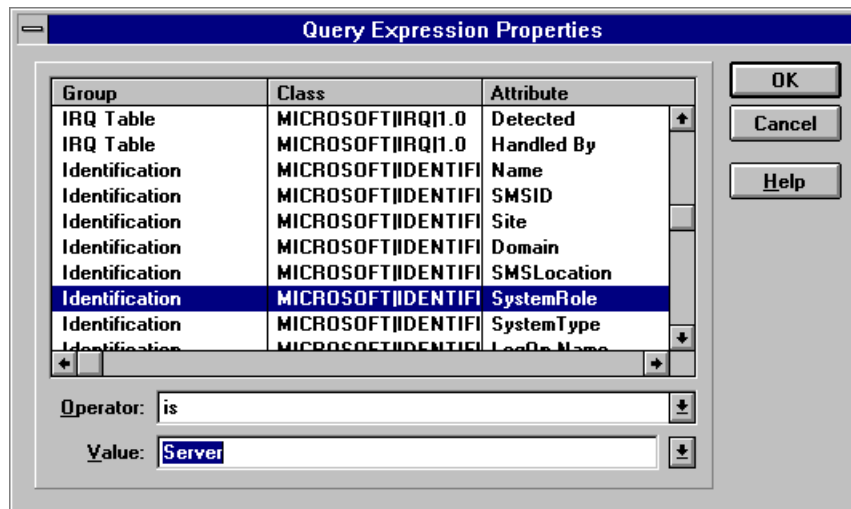

Figure 6-11. Finding the SystemRole attribute
10. Scroll through the list until you find the *SystemRole* attribute. An example of the Query Expression Properties window is shown in Figure 6-11.